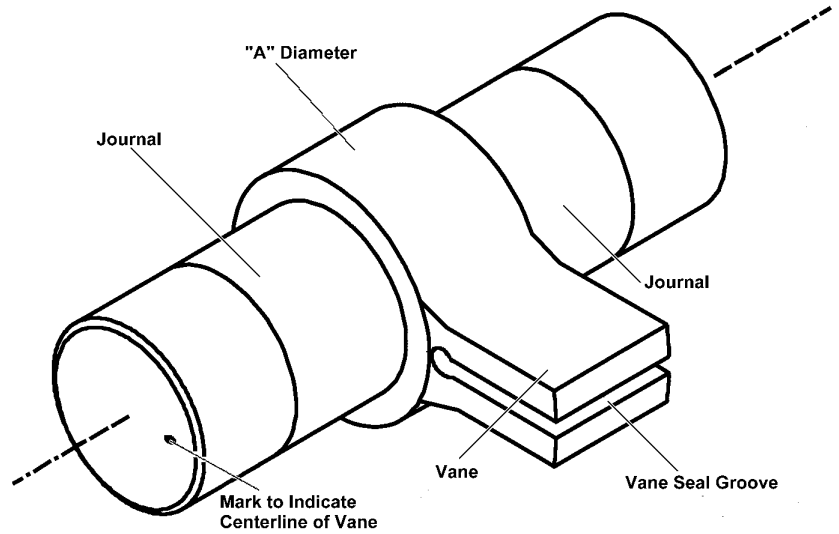

Figure 1 – Shaft Definitions
A. Shaft (Figure 1)
- c. Scoring on "A" (major) diameter. See figure 1.
- d. Scoring or galling on shaft journal. See figure 1.
- e. Scoring or galling on end of "A" (major) diameter. See figure 1.
- A. Place body (1) on a flat surface. Put two $\frac{3}{4}$ " X 1" long dowels into the body for the dummy head. Attach the dummy head with two $\frac{1}{2}$ -13 X 1.50 long SHCS so that it is properly seated. Turn the body and dummy head over so that the dummy head is on the flat surface.
- B. Install the shoe seal cushion (6) and shoe seal cap (5) into the body (1).
- C. Lubricate the shoe seal cap (5) and the ID of the body (1)
- D. Insert the vane seal cushion (8) and "C" shaped shaft vane seal cap (7) in the vane seal groove. Lubricate to hold the seals in position. Lubricate the "A" diameter of the shaft (see figure 1). Use care to avoid nicking or cutting the vane seal. All seal corners **MUST** remain sharp.
- F. Install spacer (23) inside groove and be sure it is against the inside surface of the head, then install O-ring (24) into same groove and shaft seal (22) over the O-ring into that groove of head (3). (Reference section views on pages 8 &9)